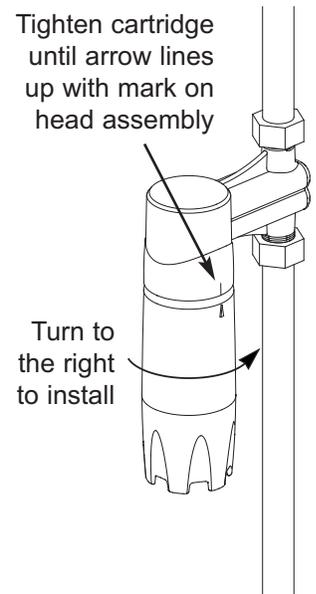

FIG. 3
5. Make sure that the filter cartridge is fully installed, so that the arrow lines up with the mark on the head assembly (See Fig. 3 on the next page).
IMPORTANT: Tighten the filter cartridge until the arrow lines up with the mark on the head assembly. (See Fig. 3).